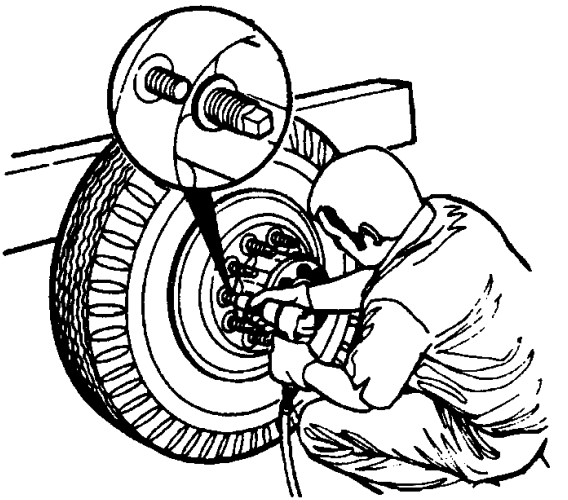

Figure 15 Remove Inner Wheel Nuts (Ball Seat)
7. On dual wheel application, remove the inner wheel nuts and wheel (Figure 15).